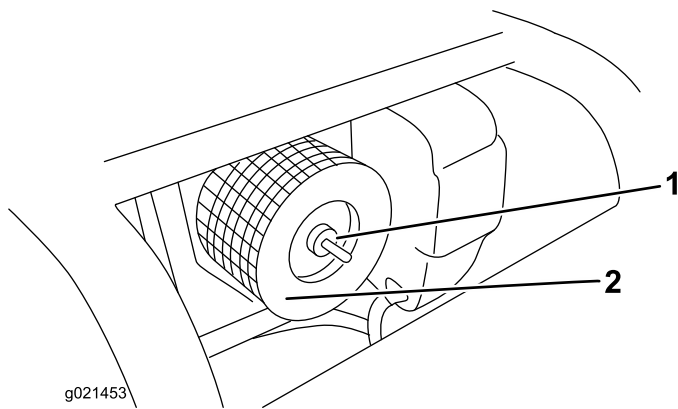

Figure 18
3. Unscrew the nut and remove the paper element (Figure 18).
6. Install the air cleaner cartridge, ensure that it is properly positioned, and secure it with the knurled nut (Figure 18).